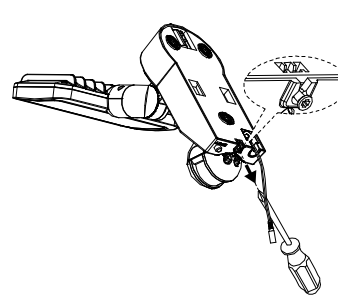

Fig. 1
- Loosen the screw (Fig. 1) of the wall bracket
Please note: Before replacing the battery the switch on the lamp unit must be set to OFF and the solar module must be disconnected from the main unit. To replace the battery, open the cover of the main unit as described in Fig. 1 and 2 in the section "Main Unit". Remove the old batteries from the holder and insert new ones. If possible, charge the rechargeable batteries first using a standard charger for 1.2 V AA NiMH batteries. If unable to charge the batteries with a charger please follow the instructions in the section "CHARGING THE SOLAR LIGHT FOR THE FIRST TIME".